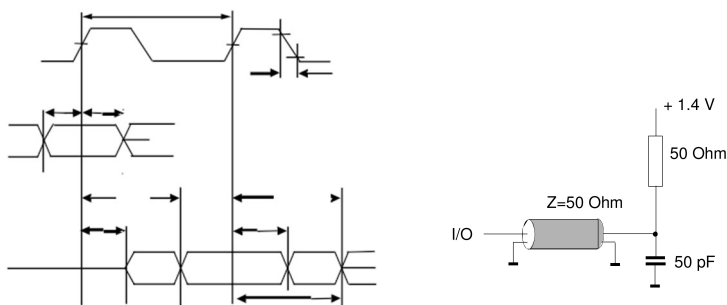

Figure 1
- AC timing tests have $V_{IL} = 0.4V$ and $V_{IH} = 2.4V$ with the timing referenced to the 1.4 V crossover point. The transition time is measured between V_{IH} and V_{IL} . All AC measurements assume $t_r = 1ns$ with the AC output load circuit shown in Figure 1.